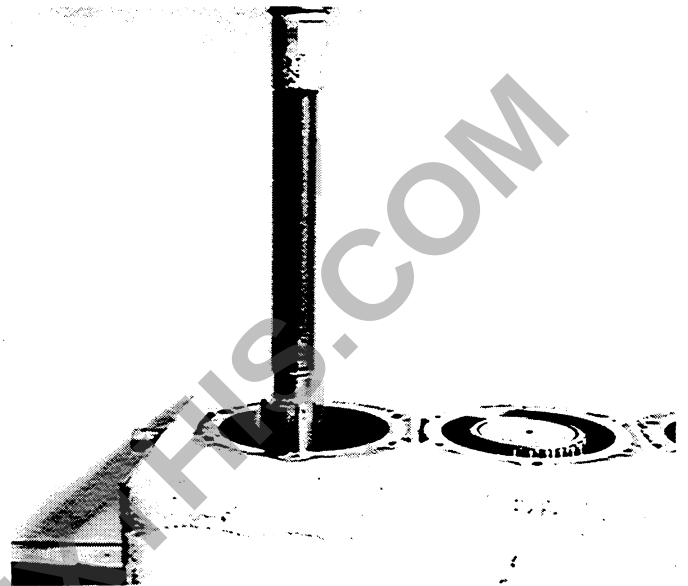

FIGURE 3:
3. (Figure 3) With the drop box set up in the press, push the top shaft out of top gear from the front of box to the rear.